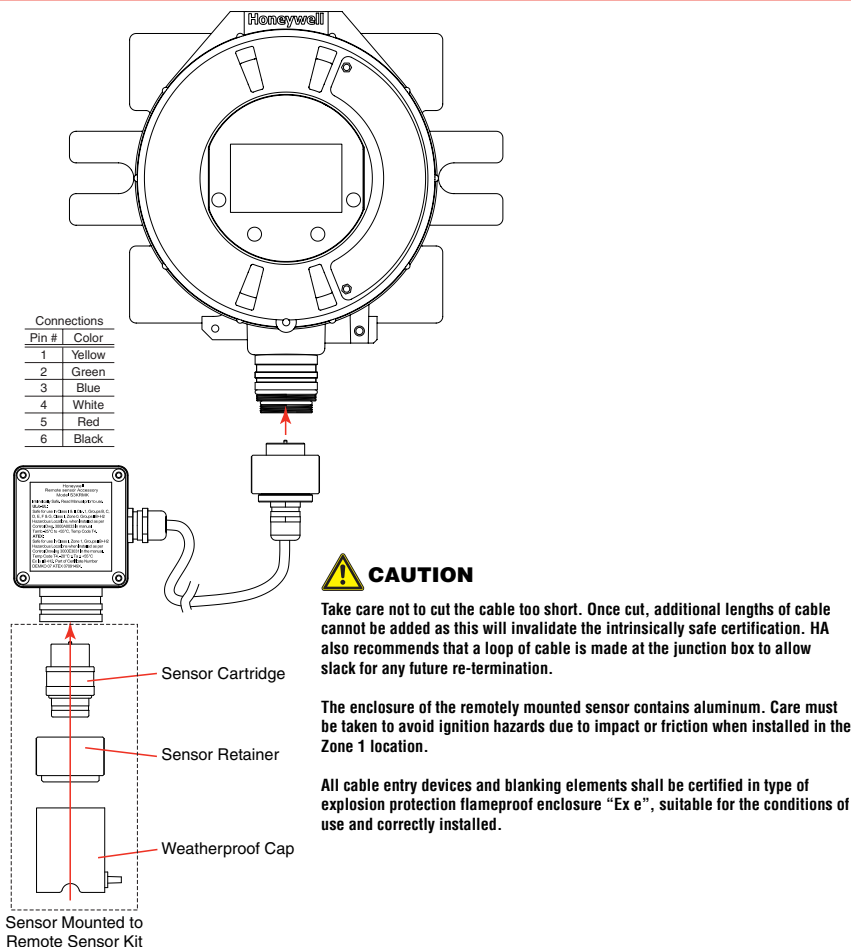

Figure 13. Installing Remote Sensor Mounting Kit
- 8. Make the wiring connections as shown in Figure 13.*